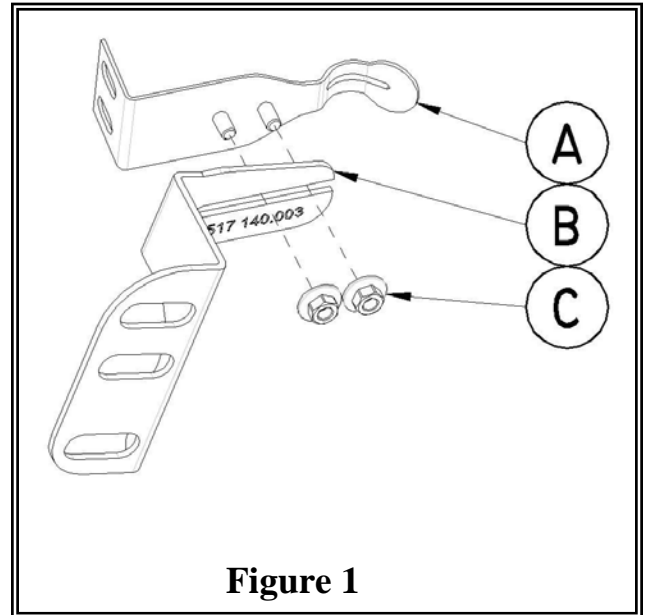

Figure 1
Step 1: Place the threaded bolts on the Spring Bracket (A) through the long slot on the Angle Bracket (B) and fasten using two M4 hexagon Nuts (C) as shown in **Figure 1**. Torque to 18 lbf-in.